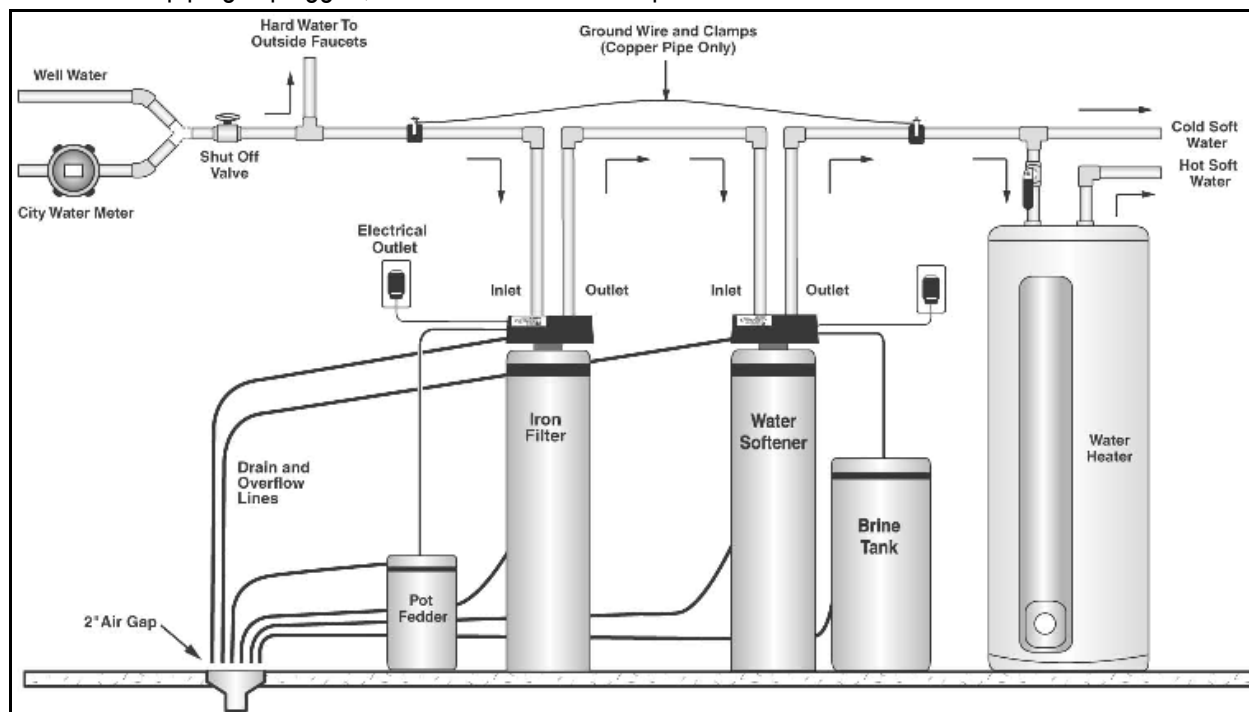

Figure 7: Iron Filter and Potassium Permanganate Feeder Placement
Note: The iron filter should be installed after the pressure tank or water meter and before the water heater or any water softener appliance, unless otherwise recommended. See Figure 7. A minimum 3/4-inch pipe is required for proper function of the filter. Examine the inlet piping to make sure the pipe is not plugged with lime or iron. If the piping is plugged, it must be cleaned or replaced.
- See Figure 7 for feeder placement.